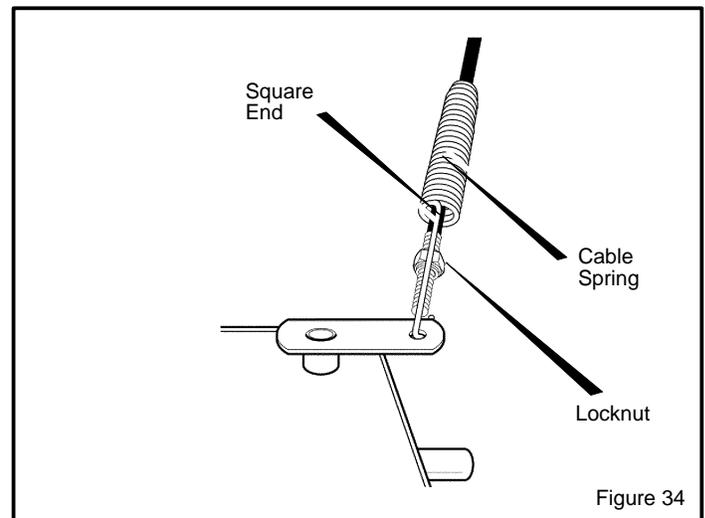

Figure 34
2. Push cable through spring to expose the threaded portion of the cable (see Figure 34).